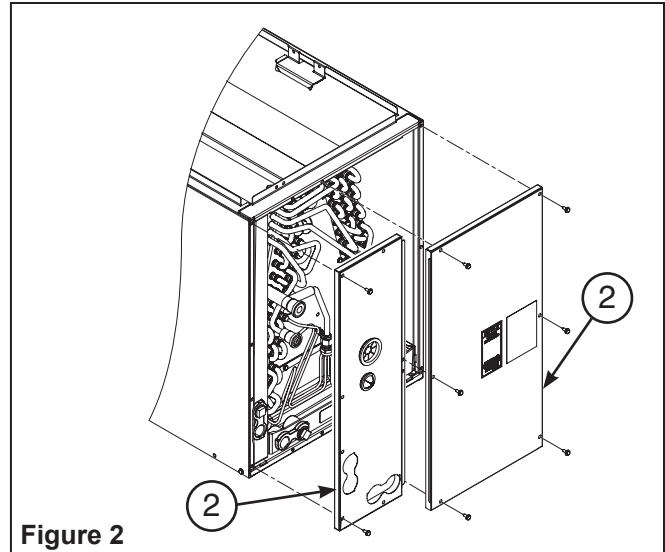

Figure 2
2. Remove the line set panel and coil panel from the coil (Figure 2).